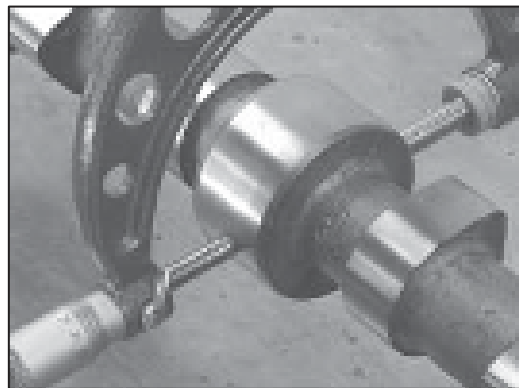

Fig. C2.30 Measuring the Camshaft Journal
3. Check the camshaft journal diameter as shown in fig. C2.30